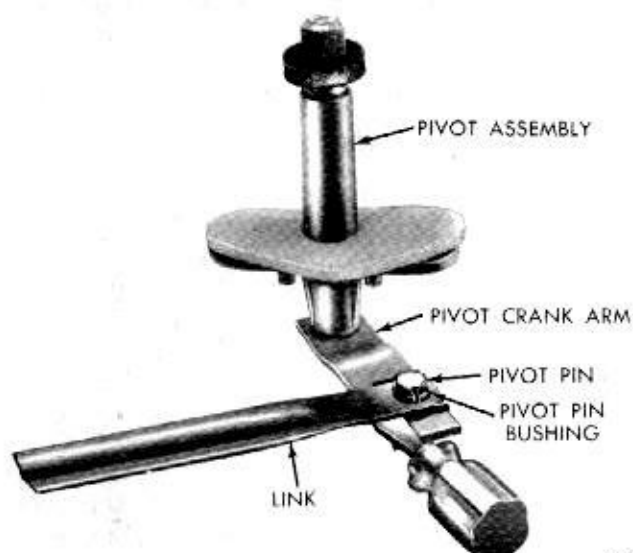

Fig. 5—Removing Link and Bushing
- (1) Disconnect battery ground cable.
- (2) If air conditioning equipped, remove the duct supply left spot cooler to provide easier access to the left wiper pivot. Insert a wide blade screwdriver between plastic link bushing and the pivot crank arm. Gently twist the screwdriver to force the bushing and link from the pivot pin (Fig. 5).
(3) To remove connecting link from pivots, remove glove box. Reaching through glove box opening, gently pry the bushing and link from the right pivot pin (Fig. 5). Lift the link from the pivot crank arm pin and repeat operation at left pivot. Withdraw from under left side of panel.
(3) From under instrument panel, remove two retaining nuts from pivot mounting studs and lower pivot far enough to remove connecting link (and drive link on left pivot) from pivot crank arm pin (Fig. 5). If air conditioning equipped, it is necessary to remove glove box for access to right connecting link and pivot retaining nuts. Remove pivot assemblies.
(4) Install replacement pivot assembly, with new gasket and sealing washer loosely on the mounting studs.
(5) Lubricate pivot pins and snap link bushings fully into position on pivot pins.
(6) Tighten pivot mounting nuts.
(7) Reconnect battery ground cable and test wiper system for operation and parking action.
(8) Replace glove box if required and using Tool C-3982, install and adjust the wiper arm and blade assemblies.